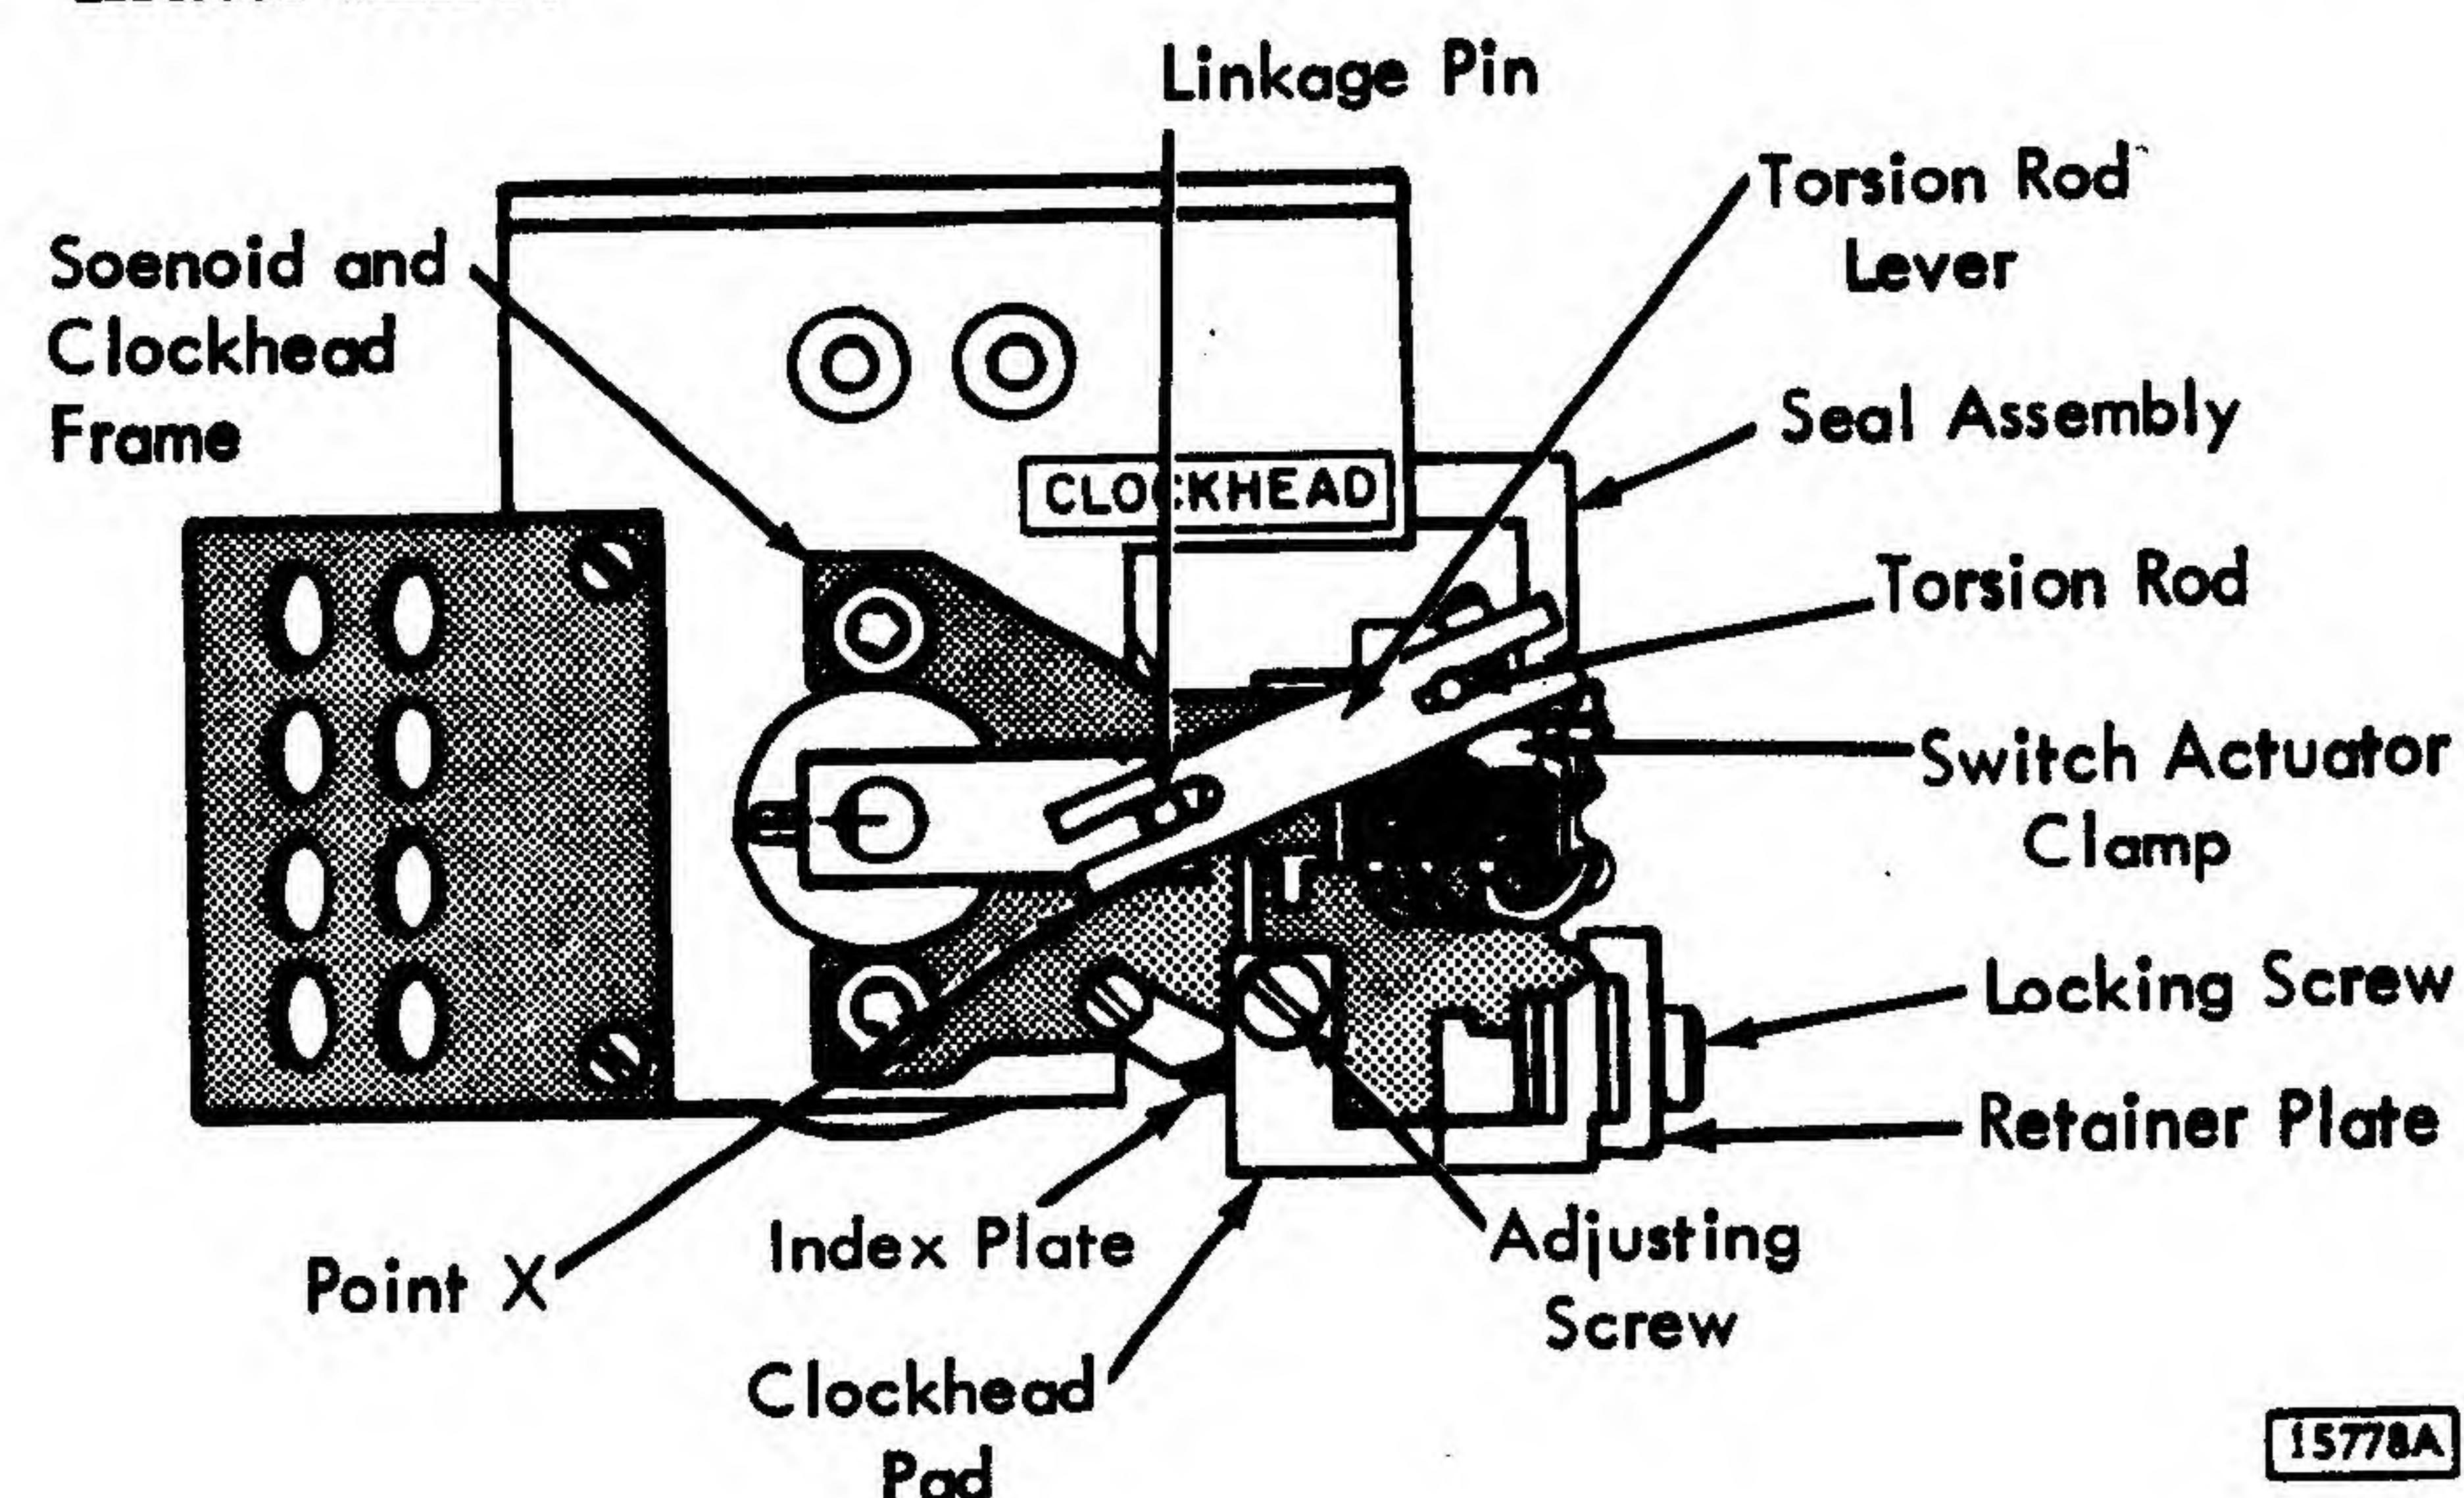

Figure 4-25. Clock Head Assembly
Six (640 kc) clock tracks each are recorded at intervals marked on the clock indexing plate (Figure 4-25).
2. Loosen locking screw (Figure 4-25).
With solenoid energized and head loaded, the torsion rod lever should be clamped on the torsion rod in such a position that  $260 \pm 10$  grams are required at point 'x' (Figure 4-25) to lift the torsion rod off the linkage pin (switch should not be actuated during this time). Adjust switch actuator clamp to close switch when head is properly loaded.